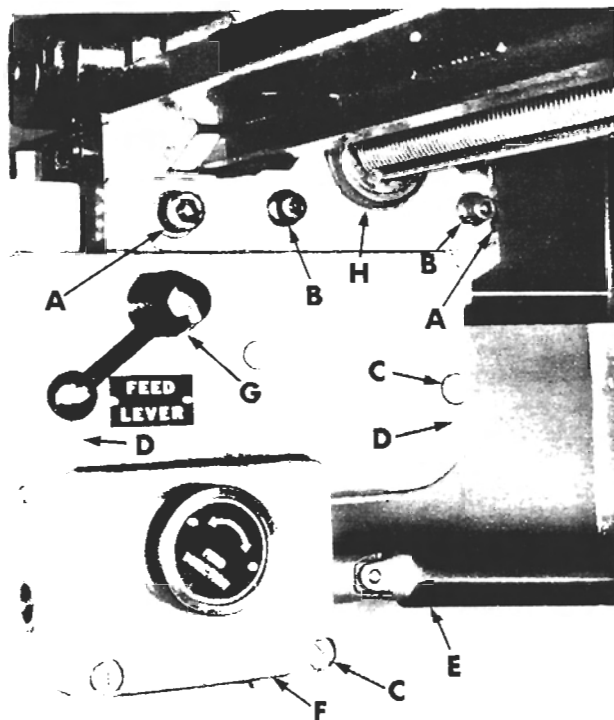

Figure 37
1. Remove two cap screws (B, fig. 37) holding table feed screw drive gear (H).
2. Remove two screws (A) holding the reverse feed box to table.
3. Move feed box to left to disengage from telescoping drive (E).
Remove reverse lever hub (G, fig. 37), four screws (C) and pry cover (F) off dowel pins (D).